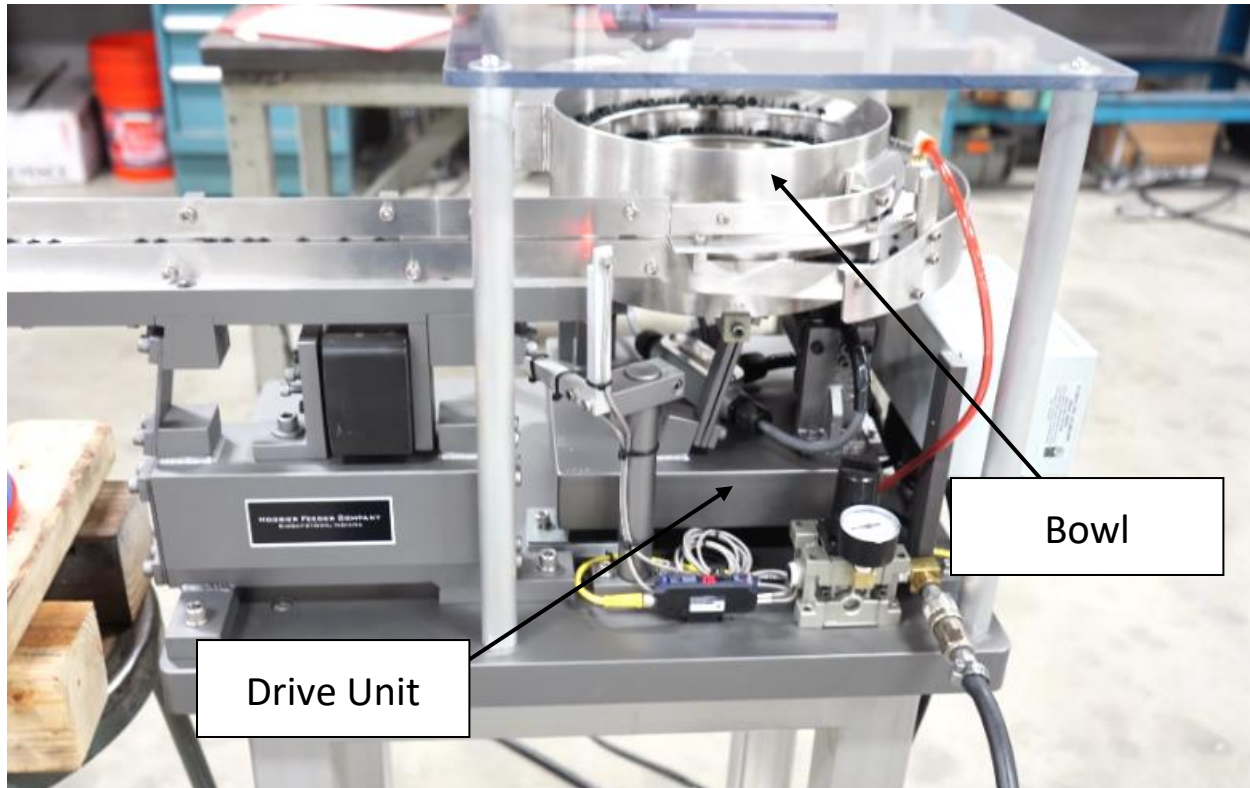

Figure 4
Every vibratory feeder has (2) main components: the **drive unit** and the **bowl** (shown in Figure 4).